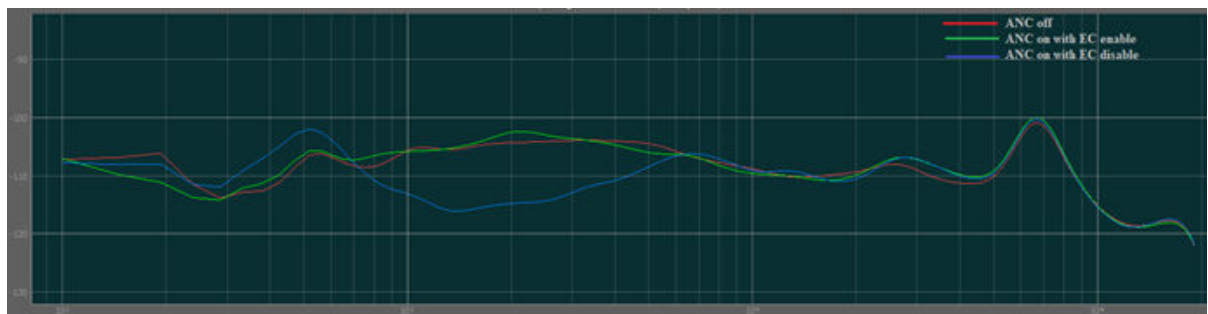

Figure 9-37 Echo canceller filter spectrum
- b. Get the spectrum of the playback at the reference microphone, see the red curve in Figure 9-37.
2. Enable ANC and obtain the spectrum. This helps determine which frequencies need to be tuned, see the blue curve in Figure 9-37.
Figure 9-37 shows a spectrum of ANC off, ANC on without echo canceller, and ANC on with an echo canceller filter.